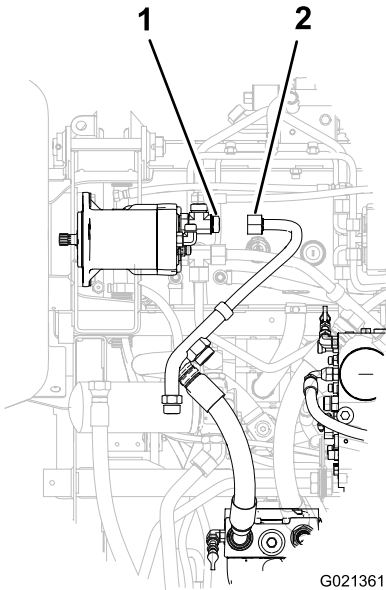

Figure 6
1. Remove the tube nut of the divider tube from the T-fitting in the front-right traction motor, and remove the tube from the machine (Figure 6).